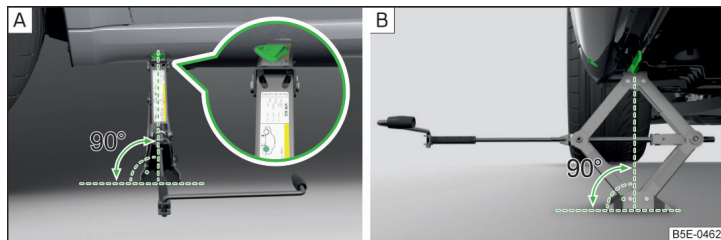

Fig. 196 Attach lifting jack
- › Support the base plate of the jack with its full area resting on level ground and ensure that the jack is located in a vertical position at the jacking point » Fig. 196 - **[A]**.
- › Position the lifting jack below the jacking point with the crank and move it up until its claw encloses the web » Fig. 196 - **[B]**.